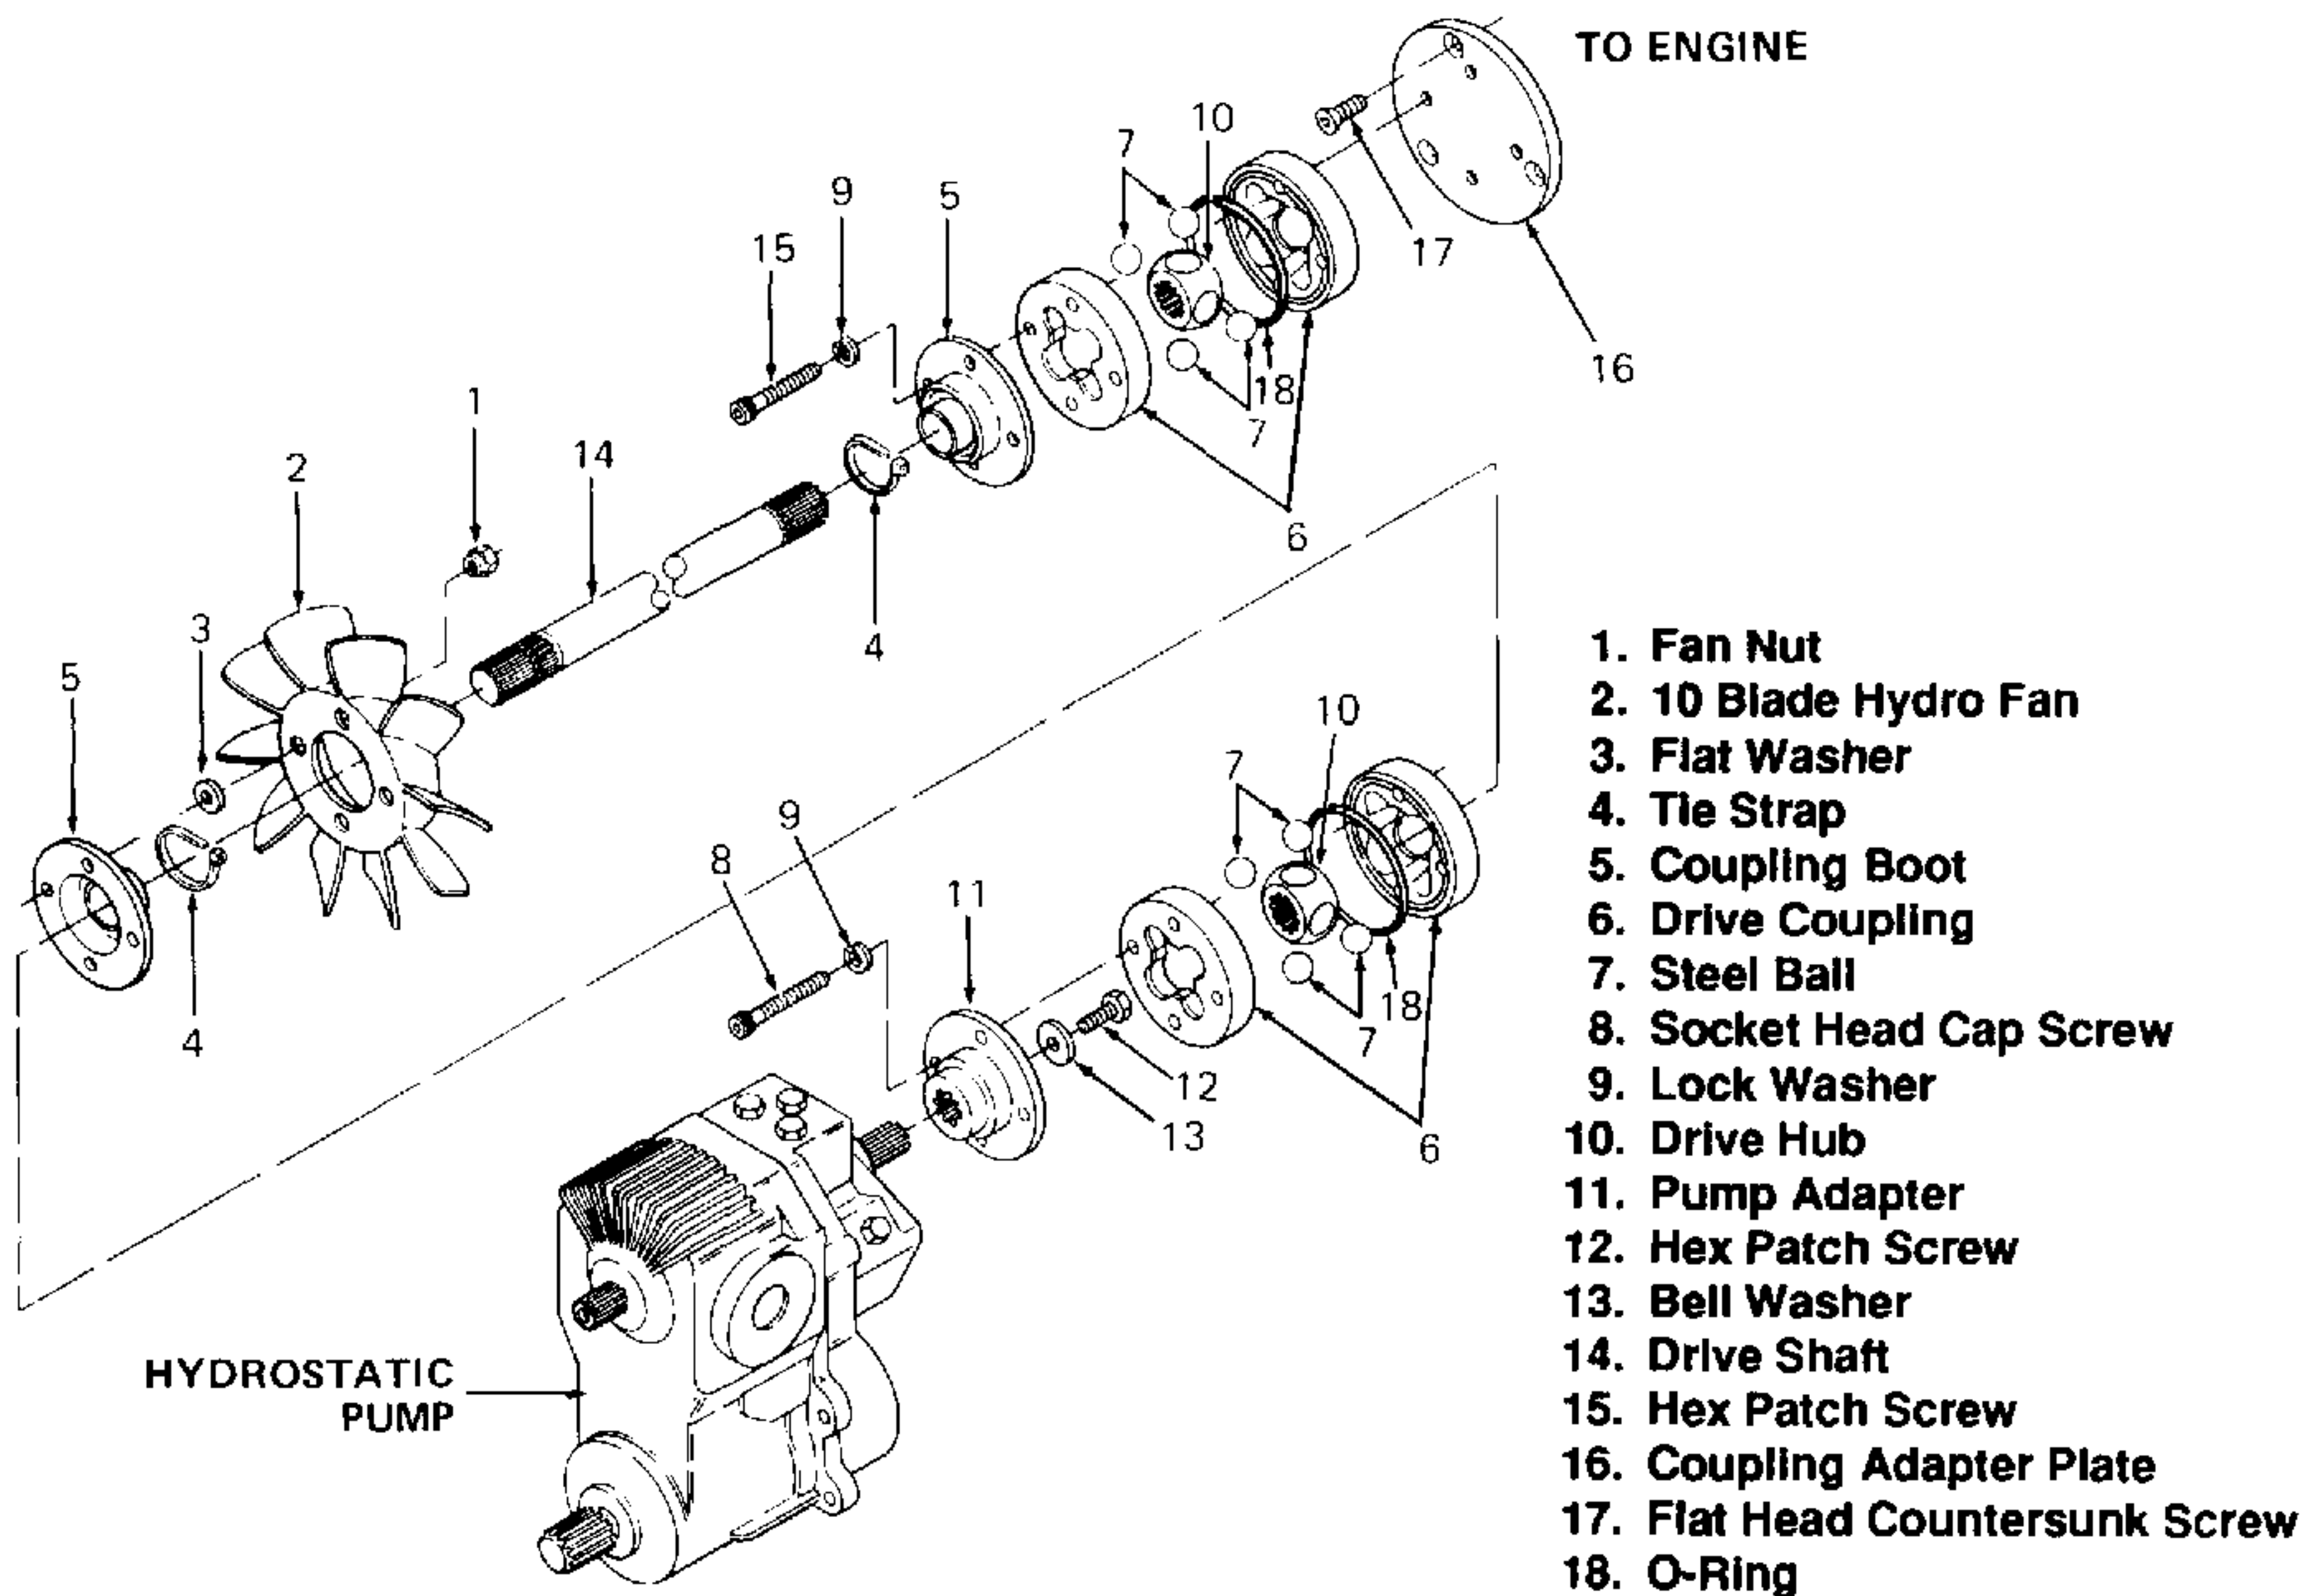

Figure 5-72. Drive Line (Models 1782, 1882, 2082 and 2182).
4. Remove drive shaft (14, Figure 5-72) as follows:
- a. Remove rear coupling assembly (6) from hydrostatic pump as follows:
Tractors prior to the 1991 model year (Serial Number 811,671 and below) were not equipped with O-rings (18). When circumstances permit, these tractors may be upgraded during repair by installing grooved drive couplings (6, Figure 5-72) with O-rings (18) seated.
b. Cut tie strap (4) on front coupling assembly (6) and pull on free end of drive shaft (14) to remove it from front coupling.
a. Remove hex patch screw (15) and lock washer (9).
b. Remove coupling boot (5), rear drive coupling (6), steel balls (7) and front drive coupling (6) with O-ring (18). Discard and replace O-ring.
6. Remove coupling adapter plate (16) by removing flat head countersunk screw (17).